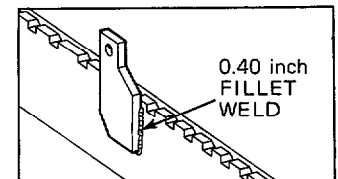

Figure 4. Weld the Bottom and Sides of Anchor Bracket
- Weld the anchor bracket to the truck carriage upper faceplate with a 0.40 inch fillet weld on the bottom and sides of the bracket as shown in Figure 4. Weld the bracket using AWS E7018 rod. Preheat to 300°-350° F.